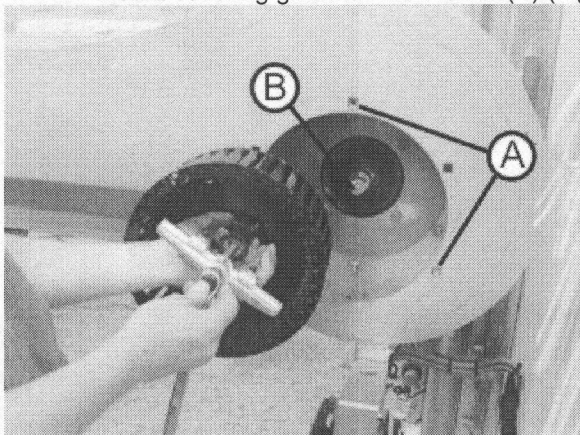

Fig. 071
4. Mount covering grid with the screws (A) (Fig. 071).
4. Loosen retaining screw (B) from impeller and remount without washer. Then screw down extractor and extract the impeller (Fig. 071).